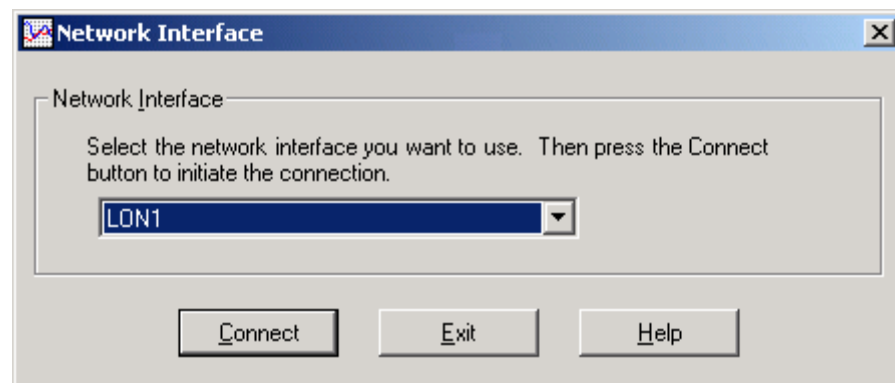

Figure 3.1 Network Interface Window
2. Open the **Echelon Mini EVK** program folder and then select **Monitoring & Control Example Application**. The window shown in Figure 3.1 opens.
You can use the switch buttons below the light bulbs labeled 1, 2, 3, and 4 to activate and de-activate **LED1 – LED4** on the evaluation board. In Figure 3.1, **LED1**, **LED2**, and **LED4** are activated. You can activate or de-activate each LED by clicking the switch button below the light bulb. For example, click the switch button below Light Bulb 1 to de-activate **LED1**.